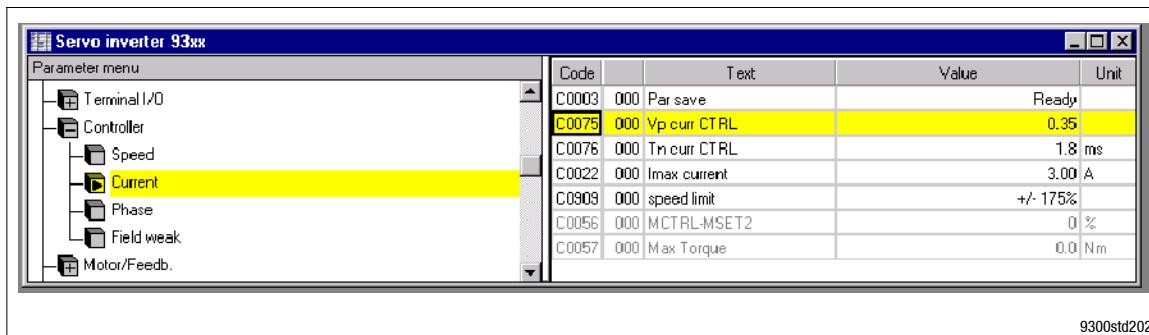

Fig. 5-2
- For adjusting the current controller use the codes C0075 (V_p) and C0076 (T_n). For this, call the parameter menu shown in Fig. 5-2.